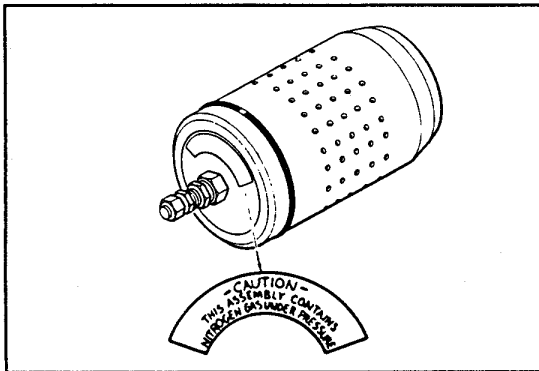

Figure 3.
8. Verify that the CAUTION sticker shown in figure 3 is attached to the accumulator chamber. This sticker must be in good physical condition and its contents legible. Replace if worn or damaged.